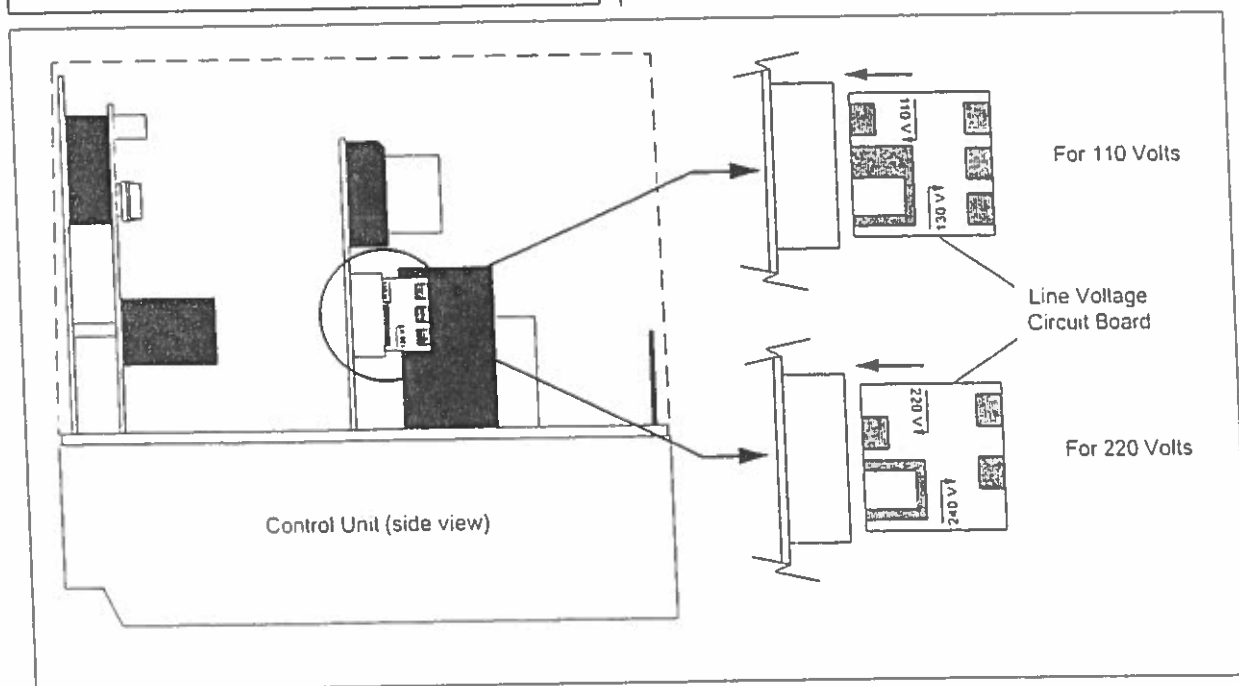

Figure A2 Setting the Line Voltage for the Control Unit
The Control Unit can be used with a line voltage of 110 V, 130 V, 220 V, or 240 V. To set the Control Unit for the proper line voltage (see Figure A2):
- ③ Pull the line voltage circuit board from its socket and replace it so that the arrow for the proper voltage faces out toward the side of the control unit and points in toward the socket. (Figure A2 shows the proper orientation of the circuit board for 110 V and 220 V.)